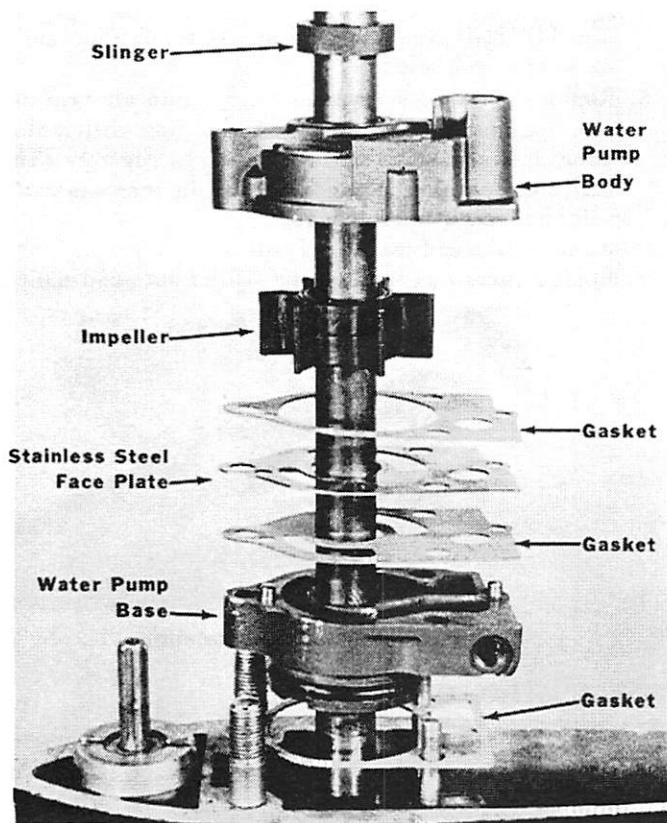

Figure 11. Installing Water Pump Assembly
4. Install water pump base-to-face-plate gasket and replace stainless face plate. (Figure 11)
7. Insert stainless water pump cartridge in water pump body and place water pump body-to-face-plate gasket on water pump body. (Figure 11)
8. Slide water pump body assembly over drive shaft and impeller. (Figure 11)